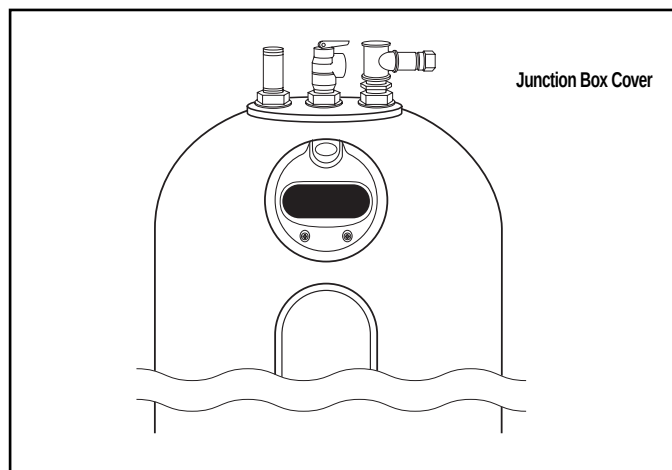

Figure 4 — Water heater junction box location.
7. **ELECTRICAL CONNECTIONS** — The water heater is completely wired to the junction box inside jacket at top front of water heater (see Figure 4). An opening for a 1/2" or 3/4" electrical fitting is provided for field wiring connections. A separate branch circuit with copper conductors, overcurrent protective device and suitable disconnecting means must be provided by a qualified electrician. The voltage requirements and wattage load for the water heater is specified on the rating plate on front of heater. Be certain that the